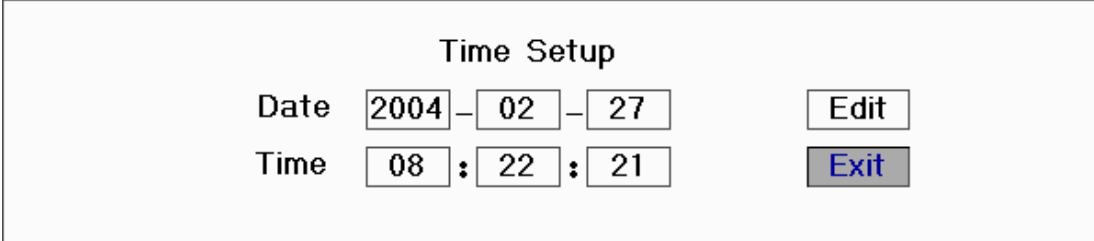

Figure 3.12 Handle Installation
2. Fix the handle subassembly on the rear panel with two screws, see Figure 3.12.